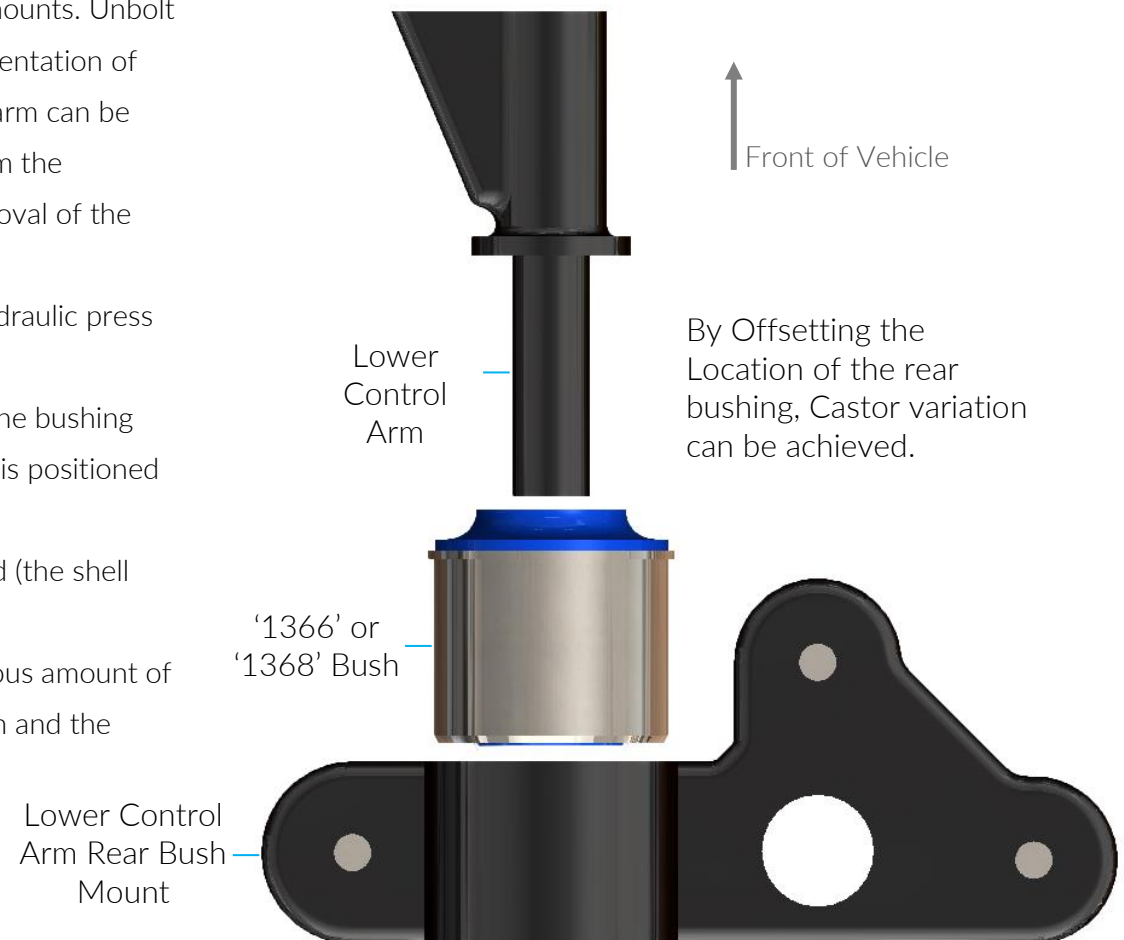

Figure 01 – Kit installation
- Press the bush into the bracket housing. Note that the larger end (the shell flange side) faces the front of the vehicle, see Figure 01;